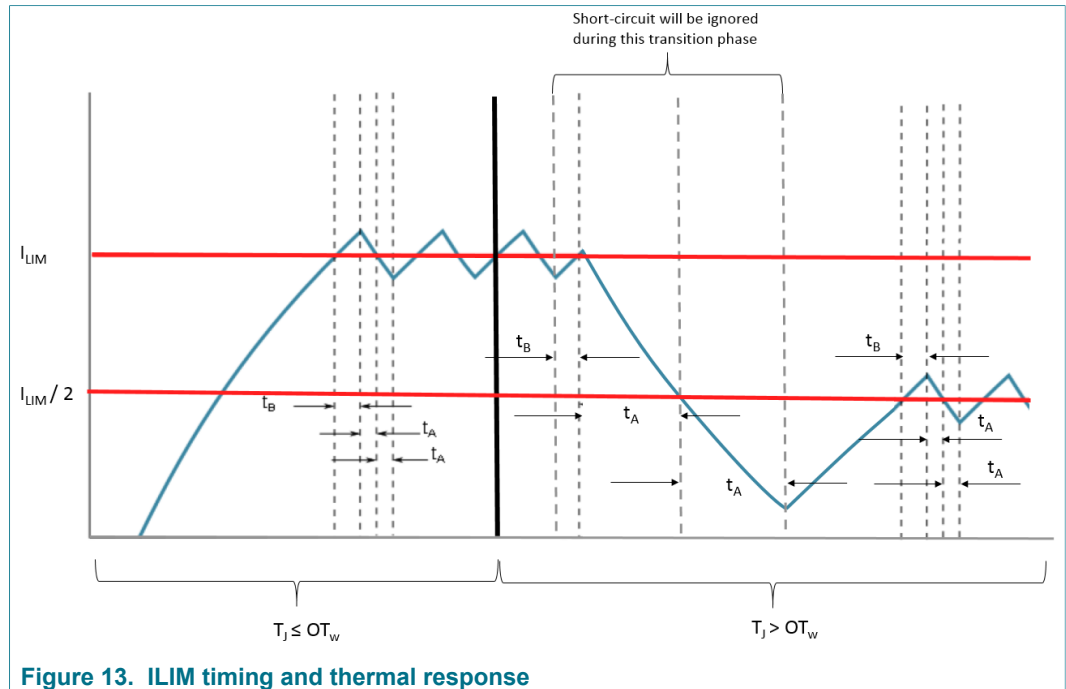

Figure 13. ILIM timing and thermal response
After  $2 * t_A$ , the control of the gates releases, restoring the output to the configuration set by the inputs. If the average output FET temperature exceeds the die temperature warning threshold ( $OT_W$ ), the current limit threshold is set to 50 % of its original value selected via SPI and output keeps switching with  $t_B$  set at 32  $\mu s$  with  $t_A$  as explained above and in Figure 13. The temperature dependent blanking time does not change during the blanking interval. Input control does not cause the output to switch ON while current is greater than  $I_{LIM}$ . Input control commanding the output to switch OFF immediately switches OFF the output and resets the  $I_{LIM}$  circuit.
*Short-circuit is ignored when  $T_J > OT_W$  for an interval of  $t_B + 2*t_A$  while current limit threshold transitions to 50 % of its set value as shown in Figure 13. Although, short-circuit is ignored for this small time interval, overtemperature protection will still be able to protect the FETs in this time interval if excessive heating happens due to a short-circuit event or high temperature transients.*